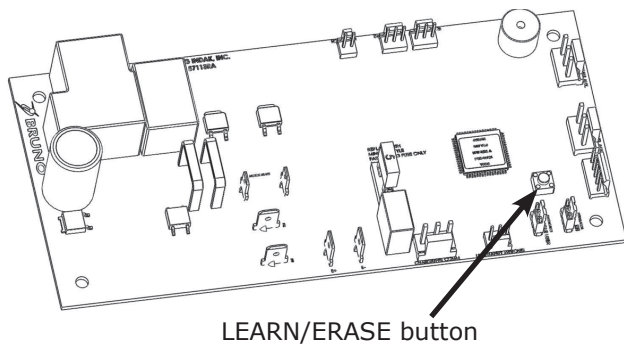

Fig. 3
3. Locate LEARN/ERASE button on circuit board (Fig. 3).